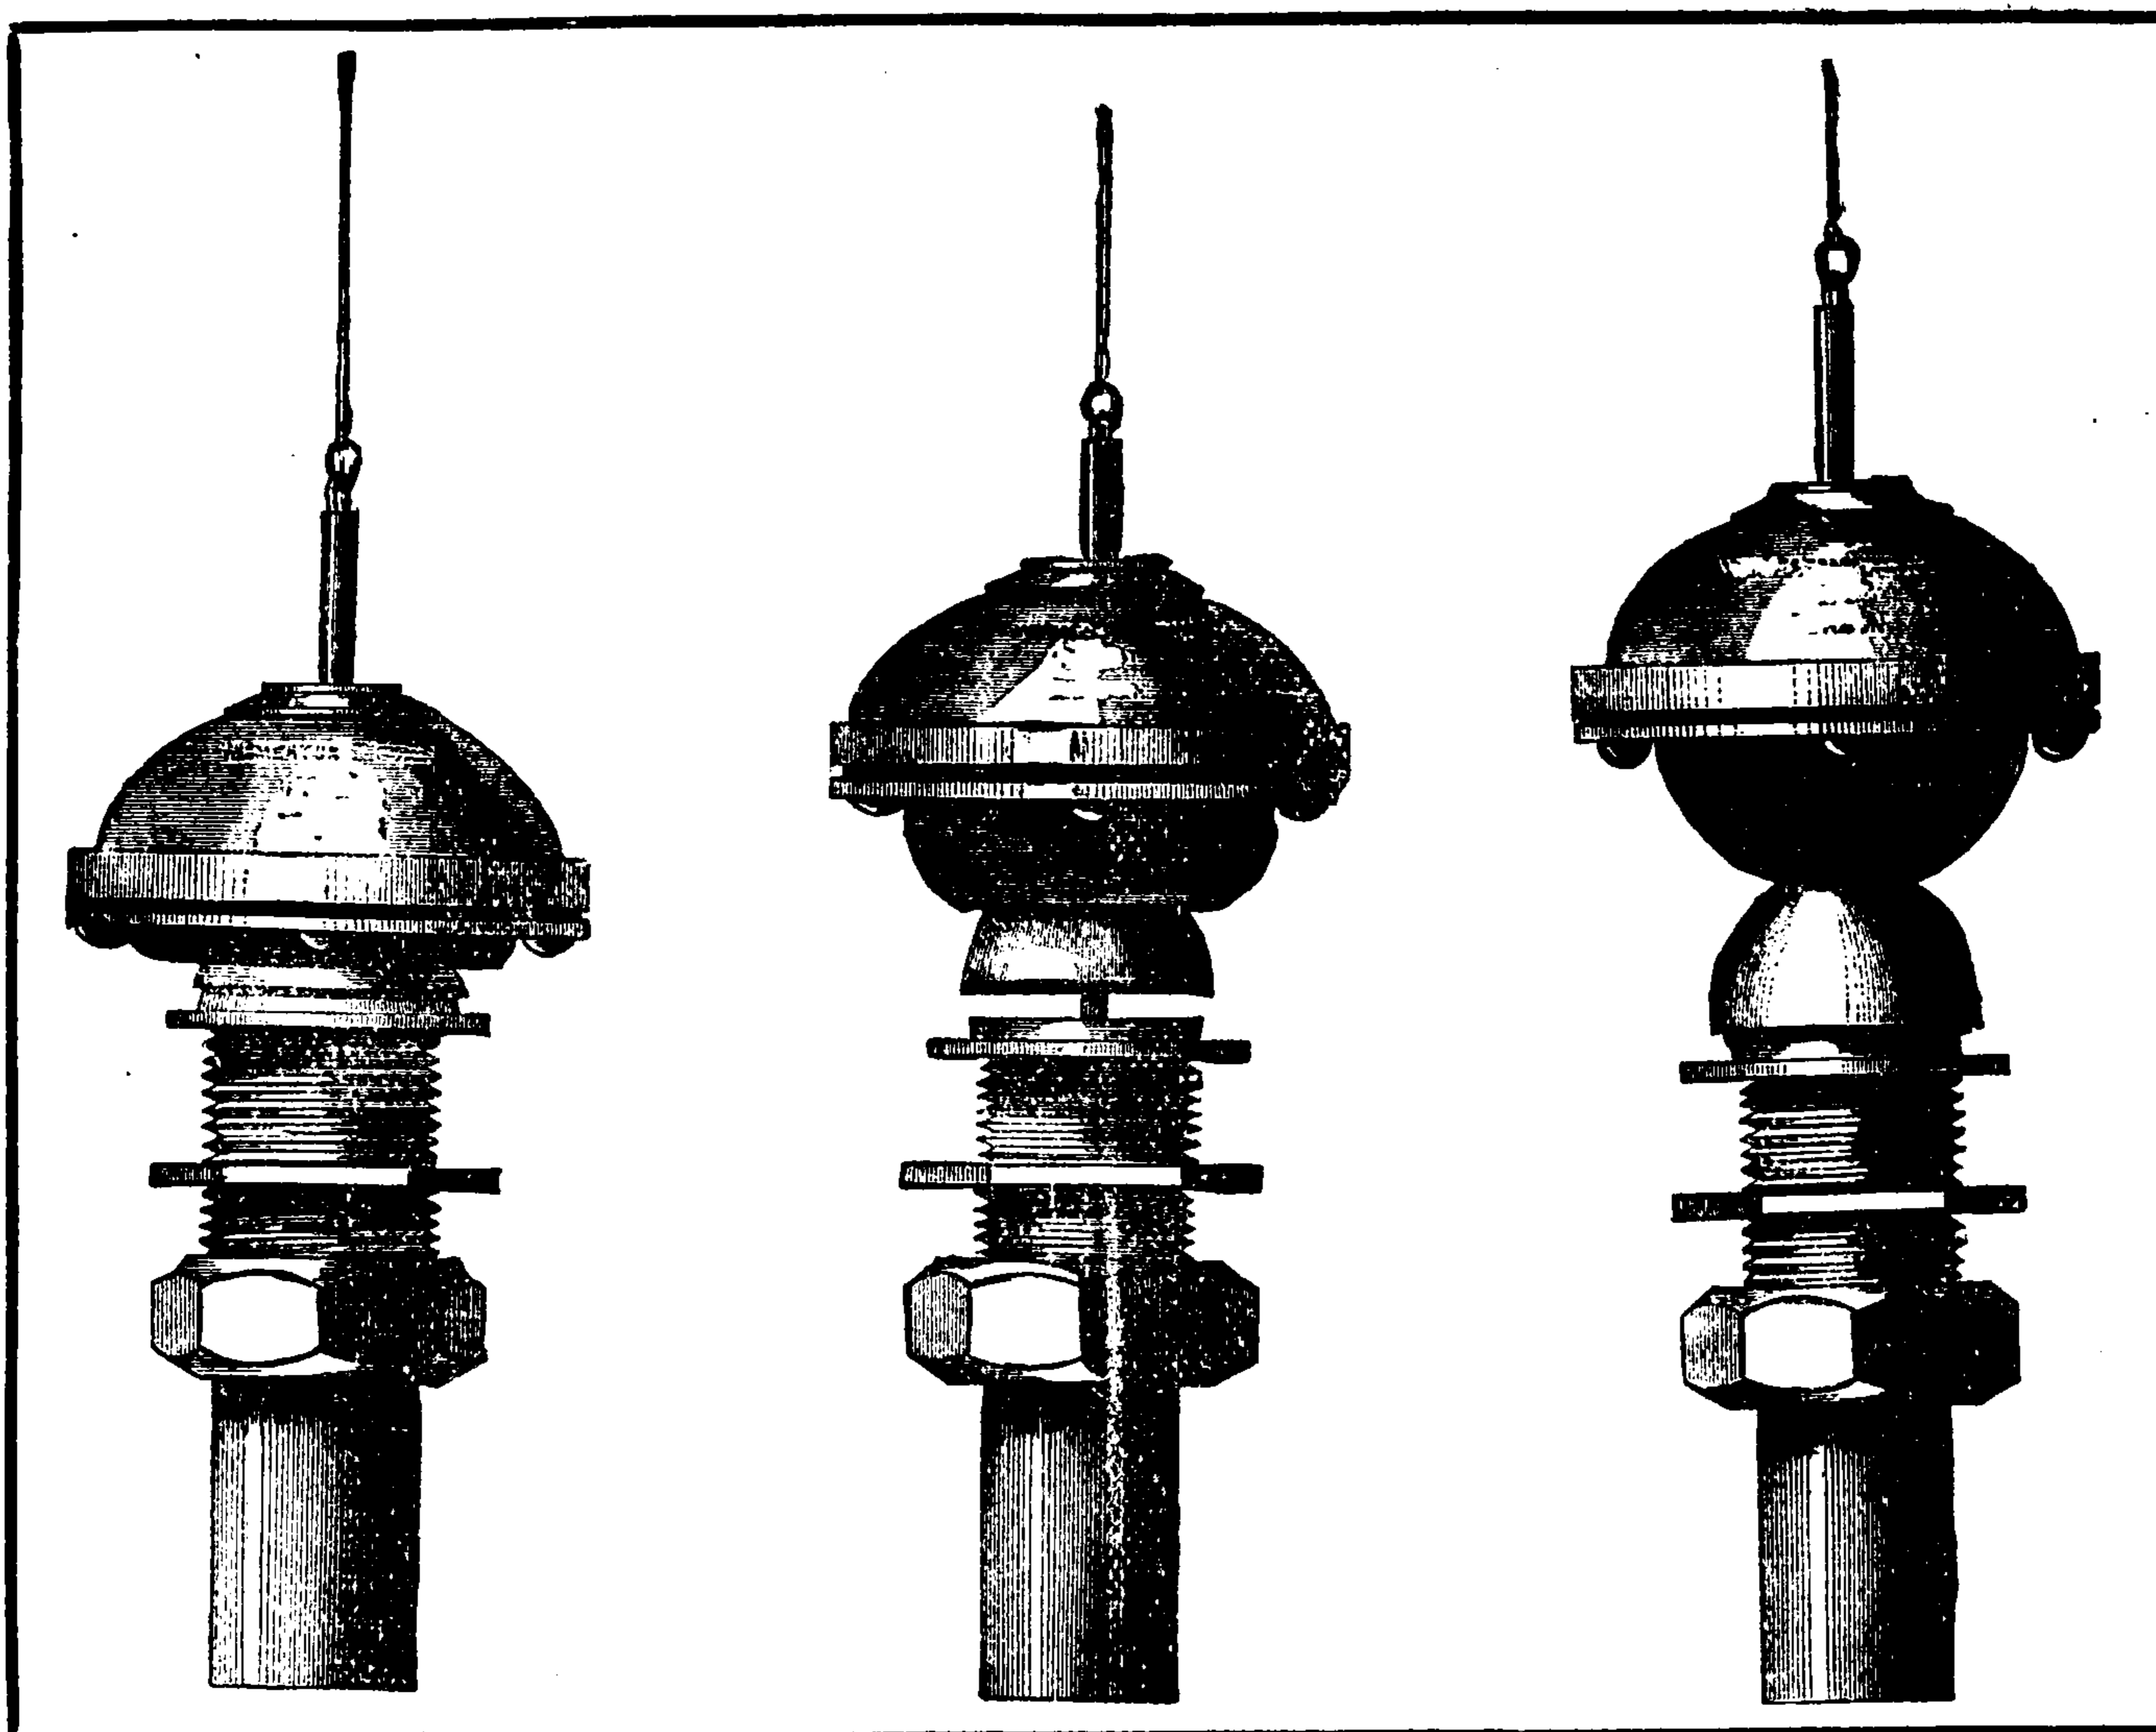
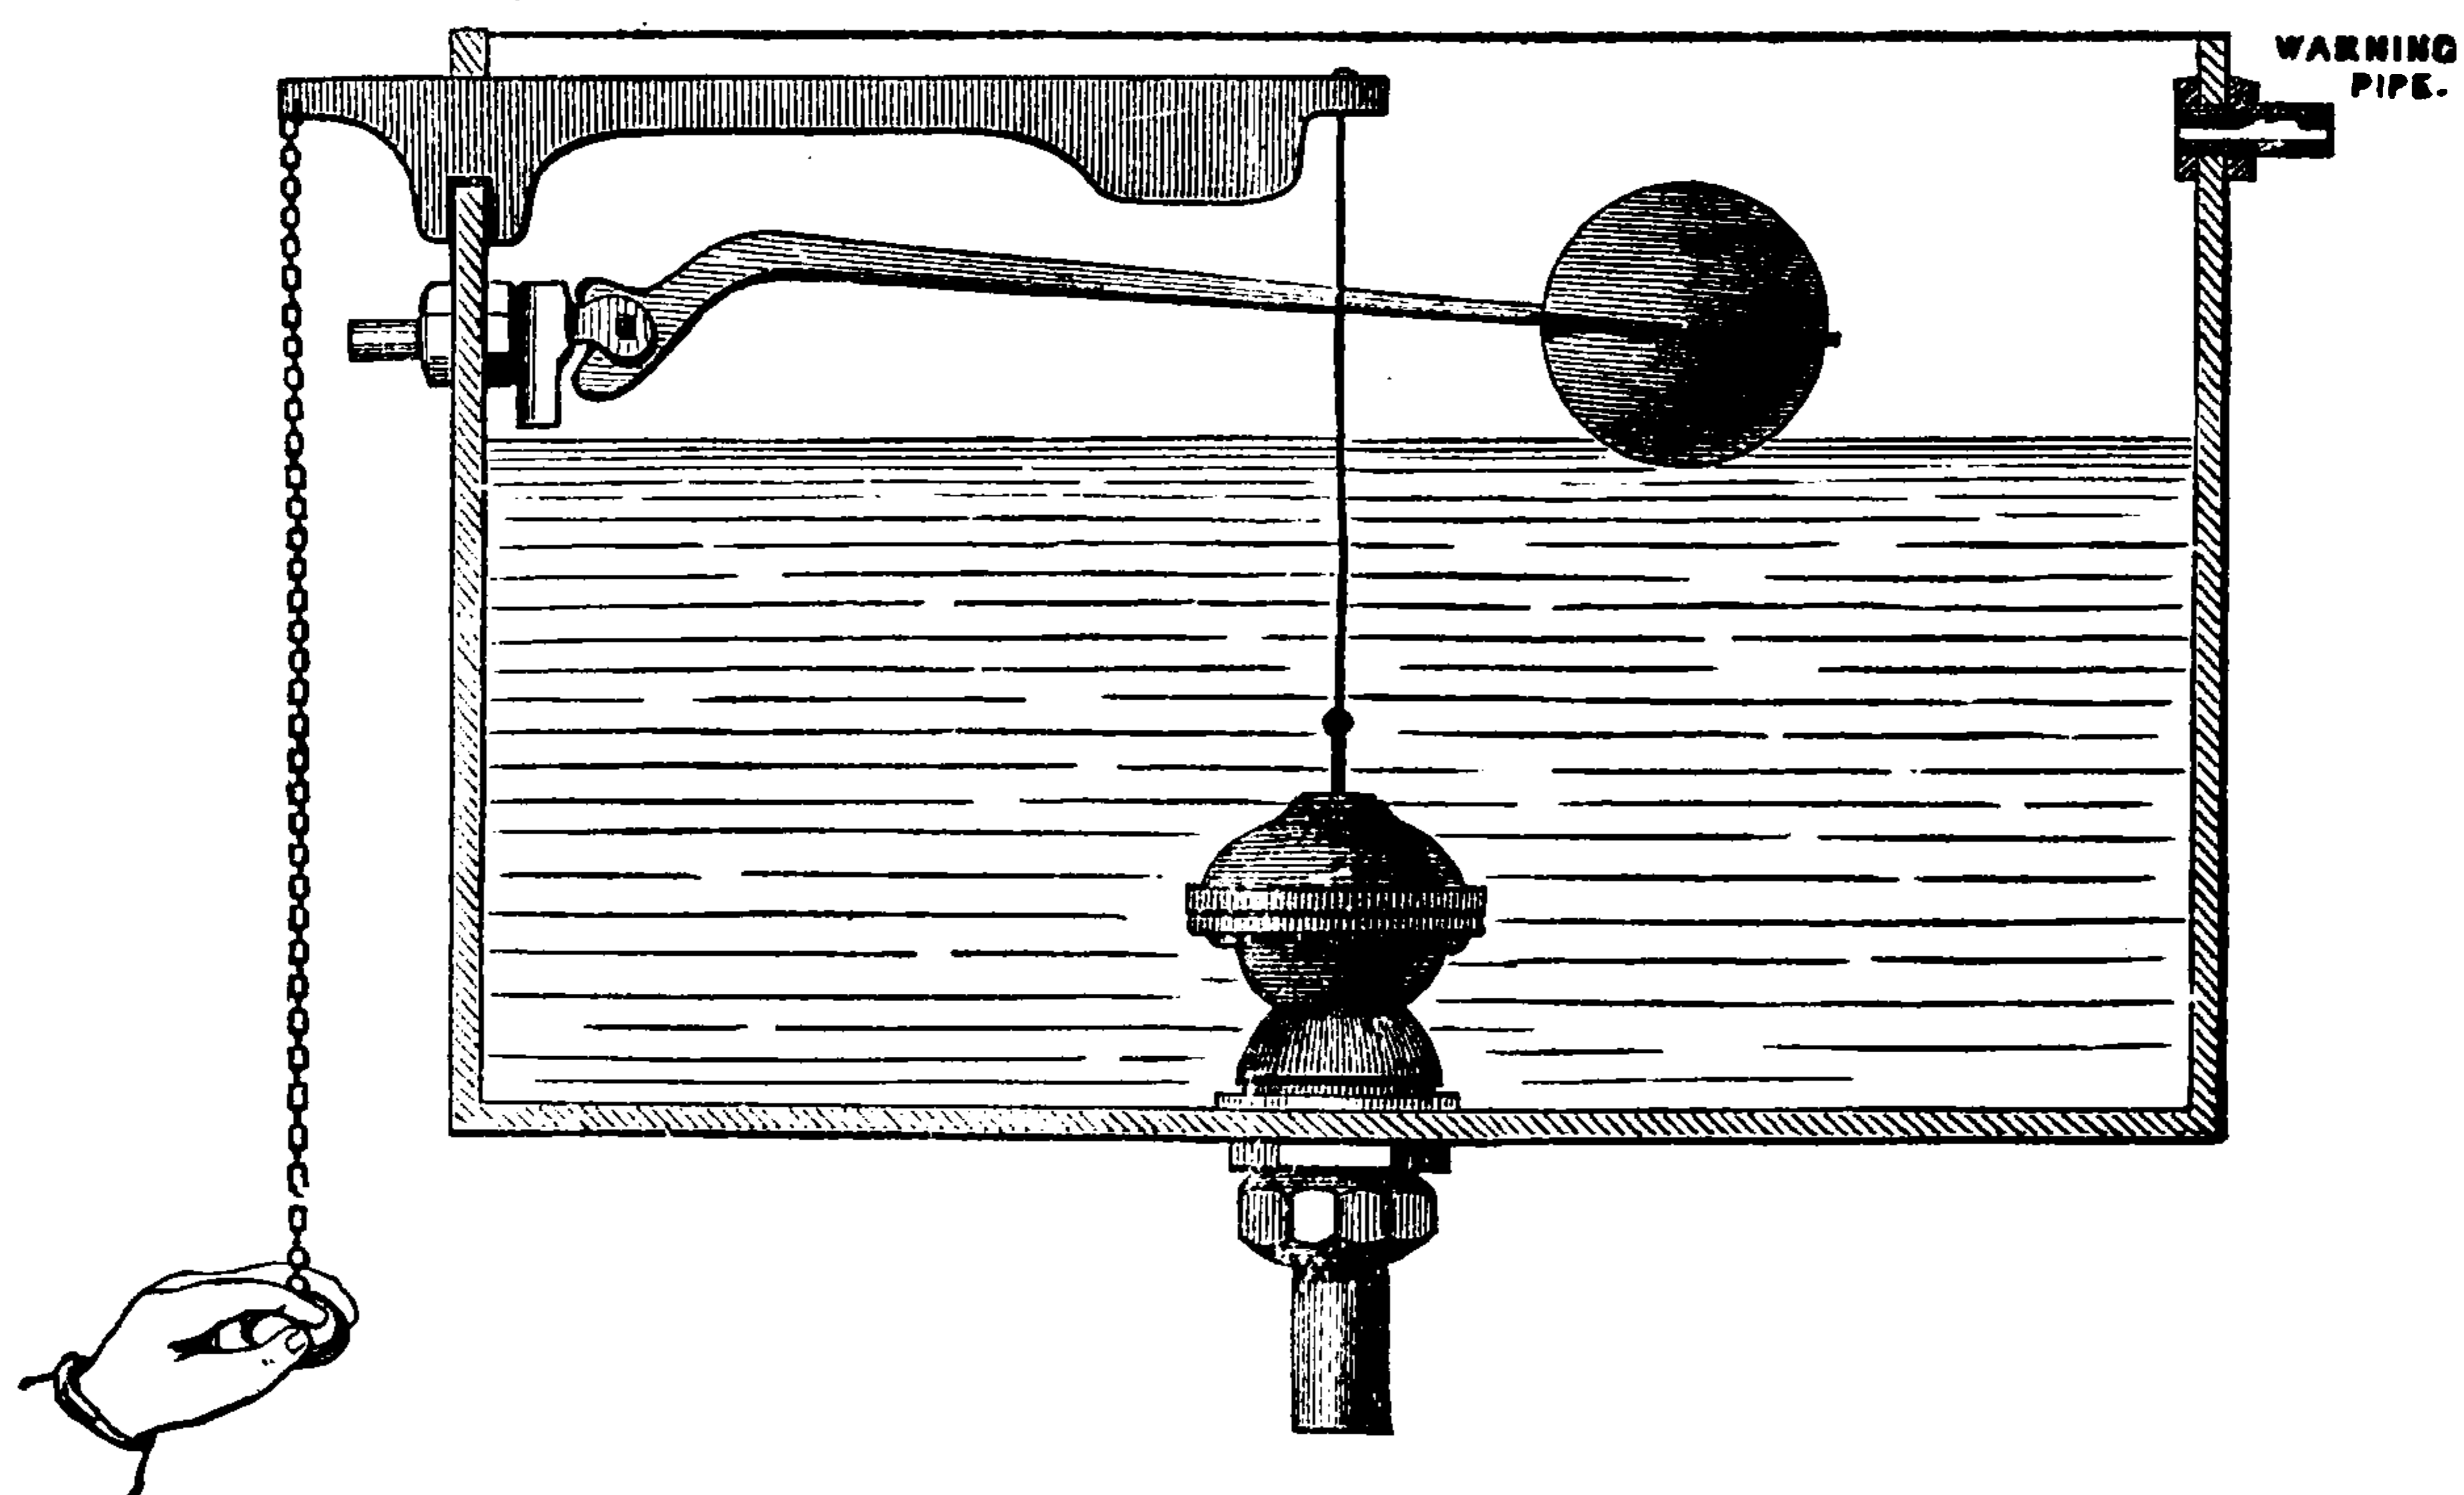

FIG. 614.
FIG. 615.
**Cupped Diaphragm Valve. [Fig. 614.]**
On the left hand side is the valve at rest, and is, as can be seen, a flexible cup attached to a weight. At the bottom of this flexible cup there is a valve covering a seating leading to W.C. Pull up the wire at top of weight, and this brings the cup and valve suddenly off its seating, as shown by the middle figure. But as the cup is hollow and flexible, having a small hole for a water passage, the weight of the valve causes it to slowly fall, as shown on the right hand side, thereby closing the valve to W.C., as shown at Fig. 614. Fig. 615 is the same valve fixed in a small cistern, with ball valve, lever and warning pipe complete.